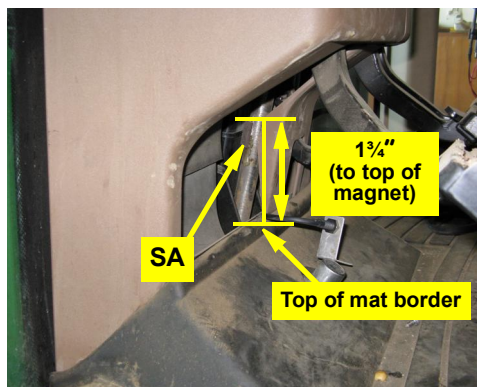

Figure 2: Installed magnets
- c. Using the epoxy attach both magnets **SA** 180° from each other on the steering shaft (Figure 2).